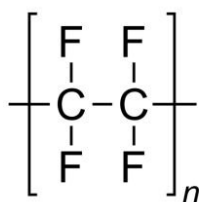

Figure Q4a
4. (a) The chemical structure of polytetrafluoroethylene (PTFE) is shown in Figure Q4a.